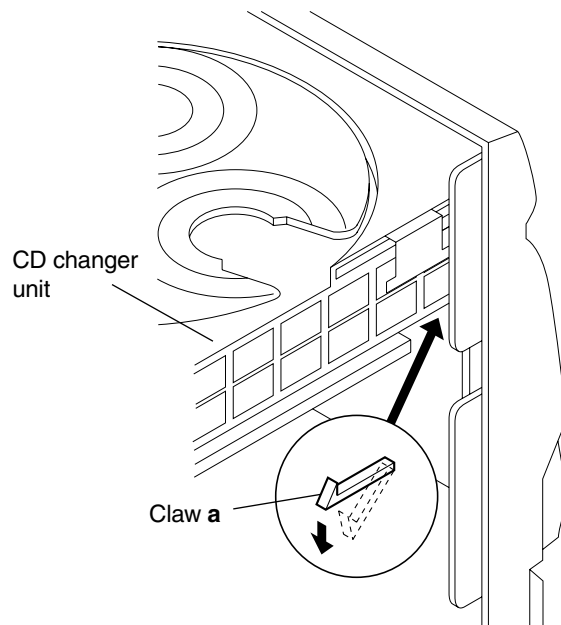

Fig.10
- Push down and disengage the two claws **a** holding the CD changer unit at the bottom of its front panel and then remove the CD changer unit. (See Fig. 10)